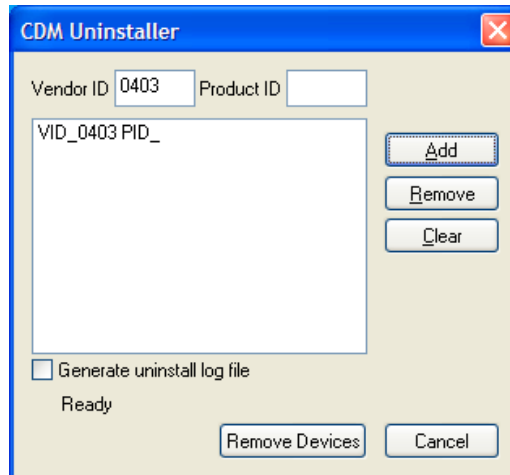

Figure 30 - CDM Uninstaller – Adding to list
- Then click the 'Add' button and the window will look like Figure 30 below.
| Figure 30 - CDM Uninstaller – Adding to list..... | 46 |